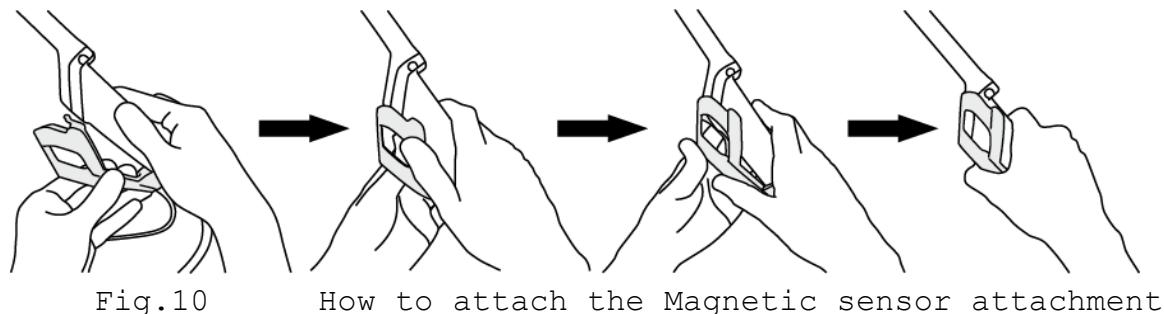

Fig.10
c) Attach the Magnetic sensor attachment to the probe as shown in Fig.10.